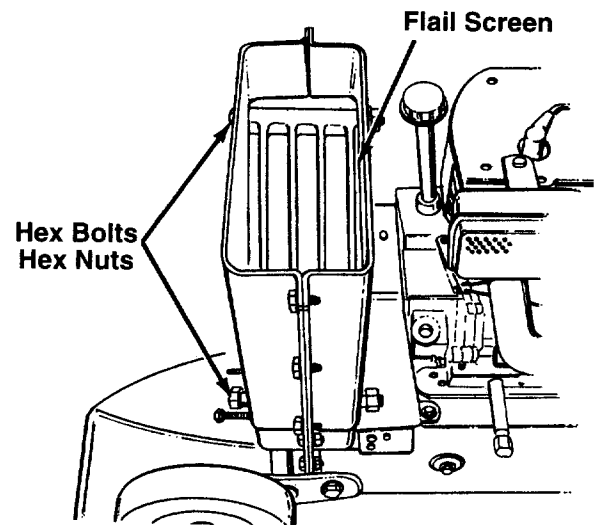

FIGURE 20.
- Remove the two hex bolts and hex nuts which extend through the housing. Lift the flail screen from inside the housing. See figure 20.
NOTE: Be certain to reassemble the flail screen with the curved side down as shown in figure 20.